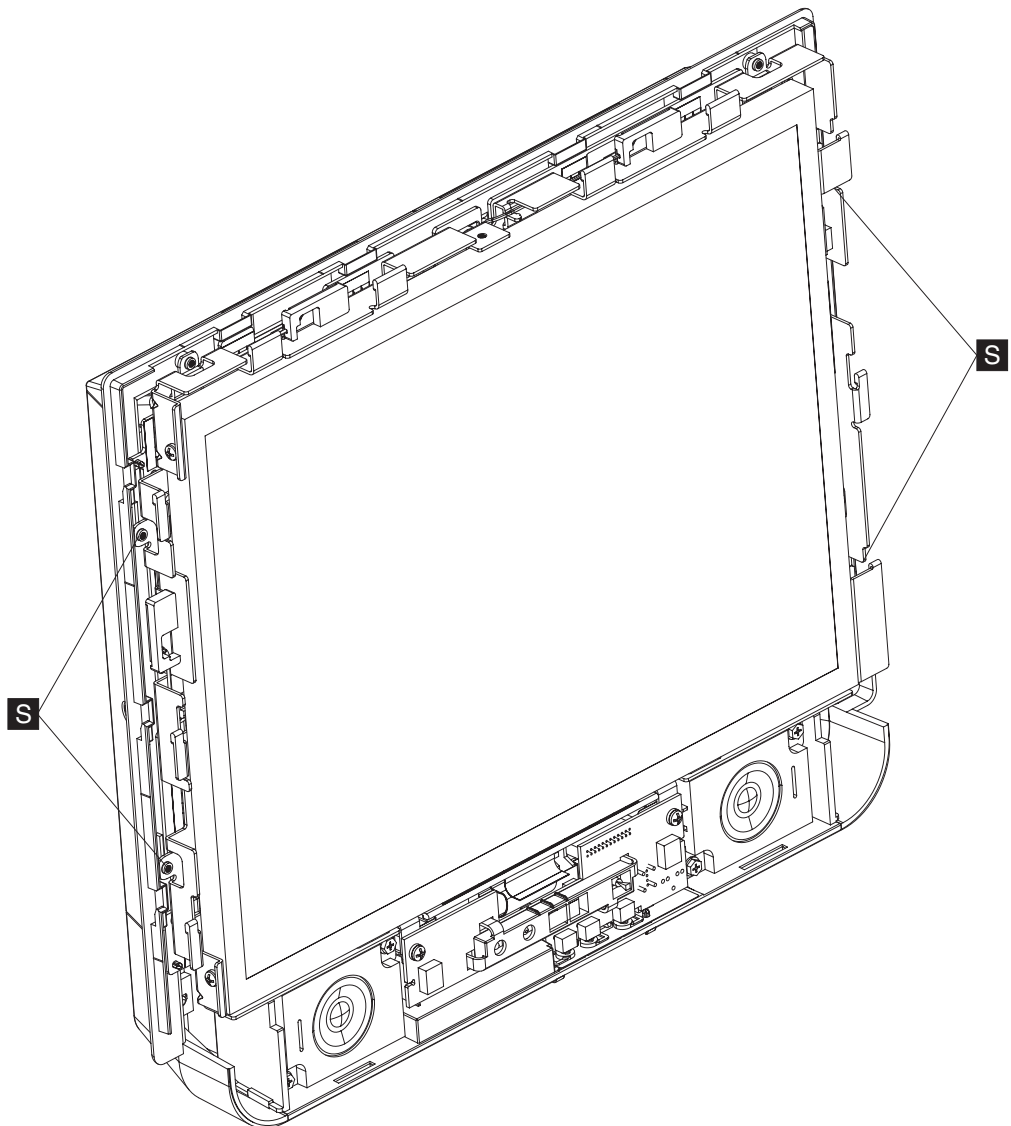

Figure 38. Removing the LCD
3. Remove the four non-captured screws (**S** in Figure 38) that hold the LCD to the LCD shield.